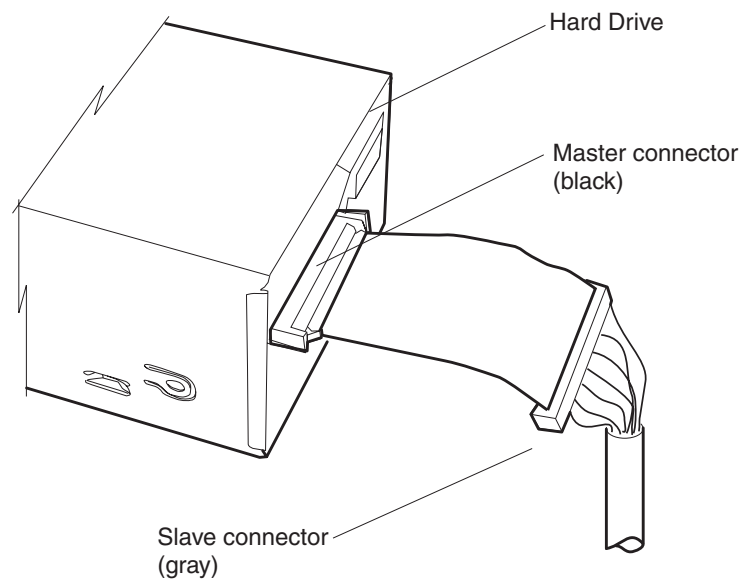

Figure 25. Master and slave connectors
6. Unplug the cables attached to the hard disk drive. See Figure 25 on page 37 and note that the end connector is the master connector, which is black, and should always be plugged into the master hard disk drive. The slave connector, which is gray, is installed to an optional, second hard disk drive in the lower position.